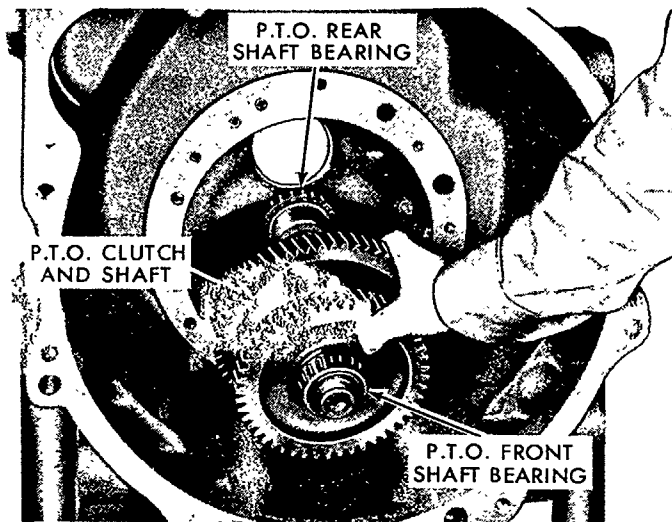

Figure 93
4. Remove the P.T.O. clutch and shaft by lifting the assembly out of the transmission, as shown in Figure 93.
7. Install the spacer and rear bearing adapter and bearing on the shaft and install the complete assembly in the transmission case. Refer to Figure 93.